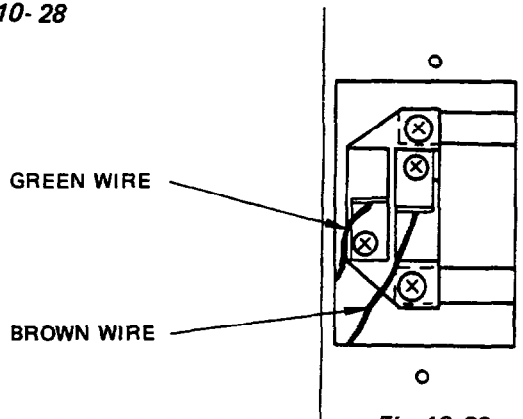

Fig. 10-28
**NOTE:** The mounting direction of the brush holders for Models RGX405, RGX405D, RGX505 and RGX 505D is shown in Fig. 10-28
Connect the green wire to the stator end and the brown wire to the bearing end. (See Fig. 10-28.)